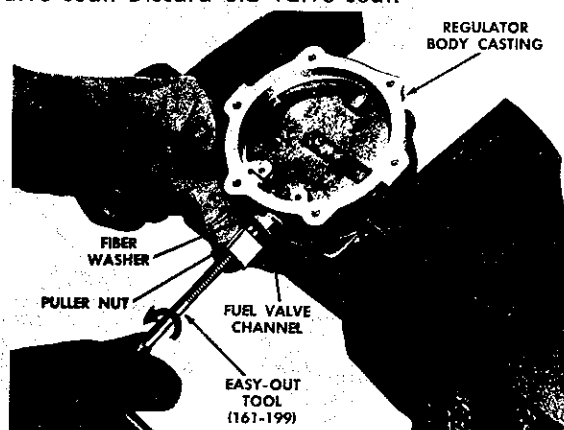
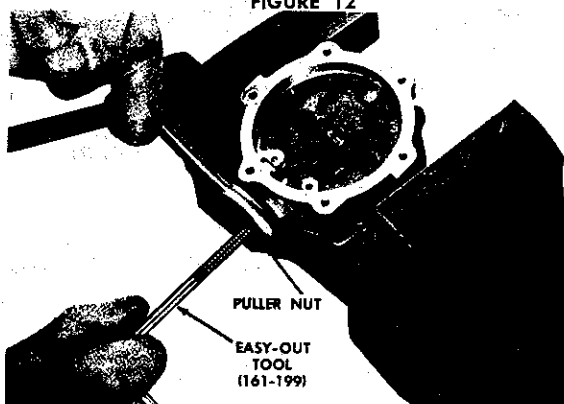

FIGURE 12
FIGURE 13
11. Clamp casting in vise. Place old fiber washer on shoulder of puller nut, part of tool C161-199. Insert tapered end of tool C161-199 in orifice of valve seat. Align easy-out with valve seat orifice by adjusting puller nut until half of its shoulder has entered fuel valve channel. Figure 12. Turn easy-out to left (counterclockwise) until tapered threads are firmly engaged in valve seat orifice. Figure 12. Hold easy-out handle, Figure 13, to prevent its turning while screwing puller nut to right (clockwise) to extract valve seat. Discard old valve seat.